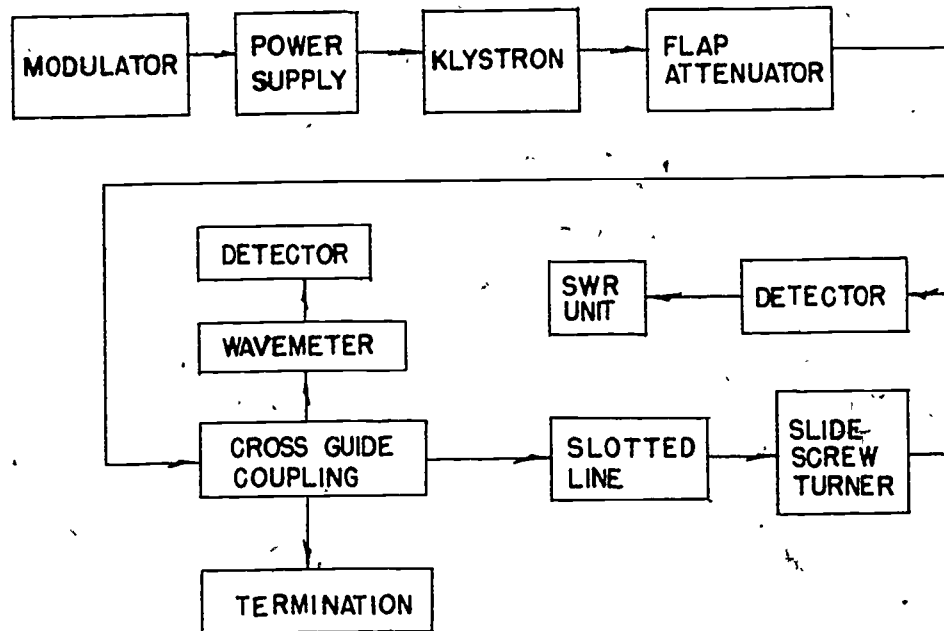

Fig. 2--Equipment Connection for Job 4
1. Set up equipment as in Fig. 2 (or if using a transmitter, consult transmitter manual).